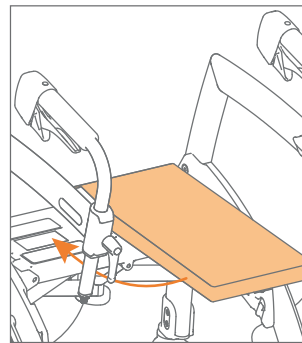

Figure 16: Cushion placed on the seat.
- Attach the cushion flat on the seat (**Figure 16**).